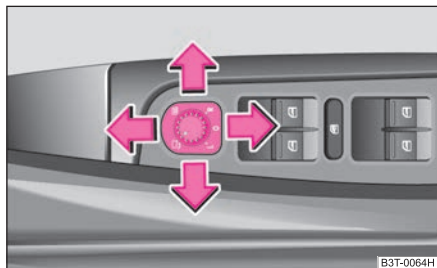

Fig. 61 Inner part of door:
- Turn the rotary knob to position ⇒ fig. 61.
When the rotary knob is in position R ⇒ fig. 61 and the reverse gear is engaged, the surface of the mirror tilts down slightly. This provides an aid in seeing the kerb of the pavement when parking the car.